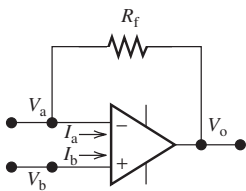

FIGURE 8.78 An op amp circuit with feedback.
Because an op amp has a very high open-loop voltage gain, negative feedback is usually considered to control the output voltage and to limit the voltage gain. The voltage gain of the op amp with negative feedback is called closed-loop gain (or simply voltage gain) and is referred to by A_v . An op amp circuit with negative feedback is shown in Figure 8.78. To achieve negative feedback, a feedback resistance, R_f , is connected between the output and the inverting input terminals.
Five properties stated above lead to two important rules called “golden rules.” Referring to Figure 8.78, the golden rules are:
1. There is no input current to the op amp, that is in Figure 8.78, $I_a = I_b = 0$.